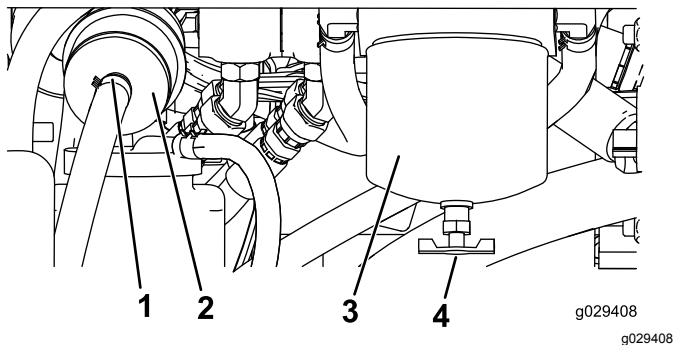

Figure 47
4. Locate the fuel filter on the rear side of the engine (Figure 47) and place a clean container under it.
4. Locate the fuel filters on the right side of the engine (Figure 47) and place a clean container under it.
5. Clean the area where the filter canister mounts (Figure 47).
6. Remove the filter canister and clean the mounting surface (Figure 47).
9. Install the filter canister by hand until the gasket contacts the mounting surface, then rotate it an additional 1/2 turn (Figure 47).
10. Locate the in-line filter to the left of the fuel filter canister (Figure 47) and note the direction of flow arrow on the side of the in-line filter.
11. Open the clamps on each end of the in-line filter and slide the hoses off it (Figure 47). Discard the filter.
12. Slide the hoses over the end of a new filter (Figure 47), ensuring that the arrow on the filter is pointing toward the engine or electric fuel pump.